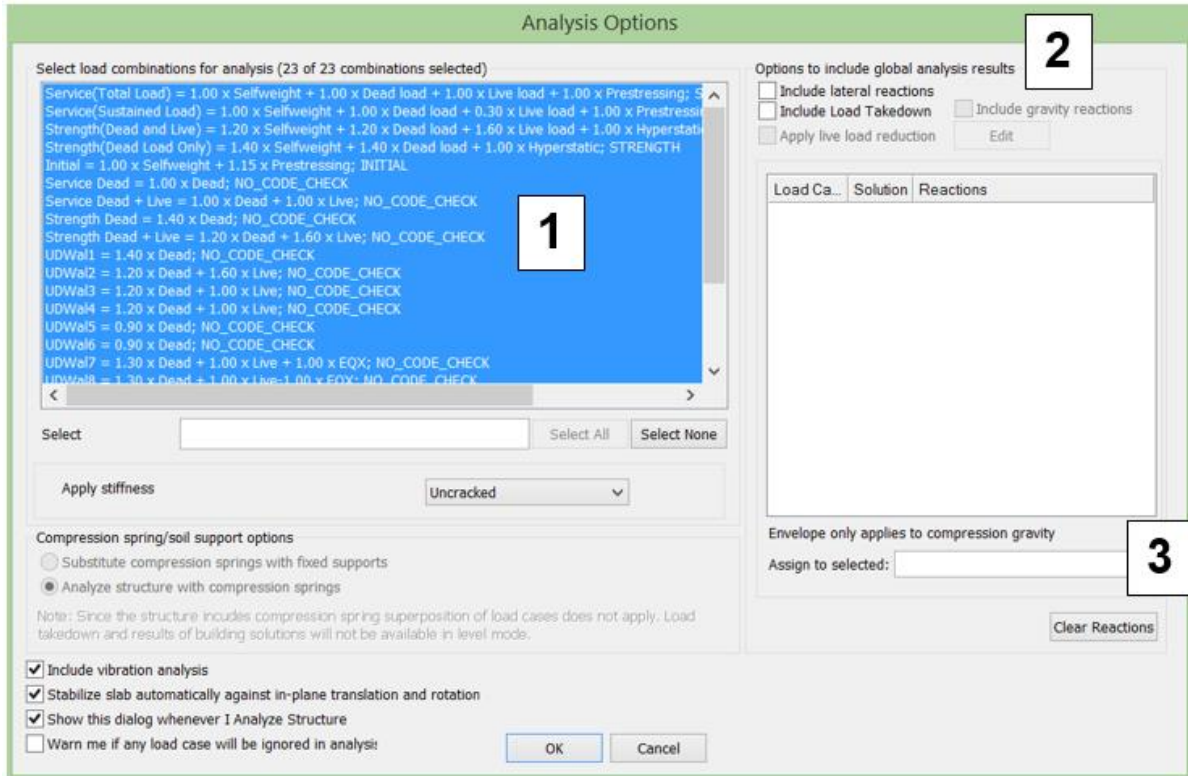

Figure 26 Analysis Options
- a. **Include lateral reactions** – When this option is selected, the program will display all available global or imported lateral load case solutions in the window to right in FIGURE 26. The program will itemize each *Load Case*, associated *Solution* source and which *Reactions* are included. In this example, **EQX** and **EQY** are reported with the solution source being **ETABS**. Note that the load case list is dependent on which load combinations are selected to be run for the single-level analysis. If the load combination selected set does not include a load case from a global solution, the list shown below would be blank.
- b. **Include Load Takedown** – When this option is selected, the program will display all available global or imported gravity load case solutions in the window to the right shown in FIGURE 26. In other words, this is the setting that controls the application of axial load takedown to the single-level being analyzed. In this example, **Dead** and **Live** are reported with the solution source being **ETABS**. Note that the **Selfweight** load case is derived from the **Tributary** solution. This is a Builder solution from the Tributary Load takedown feature included in the previous release.